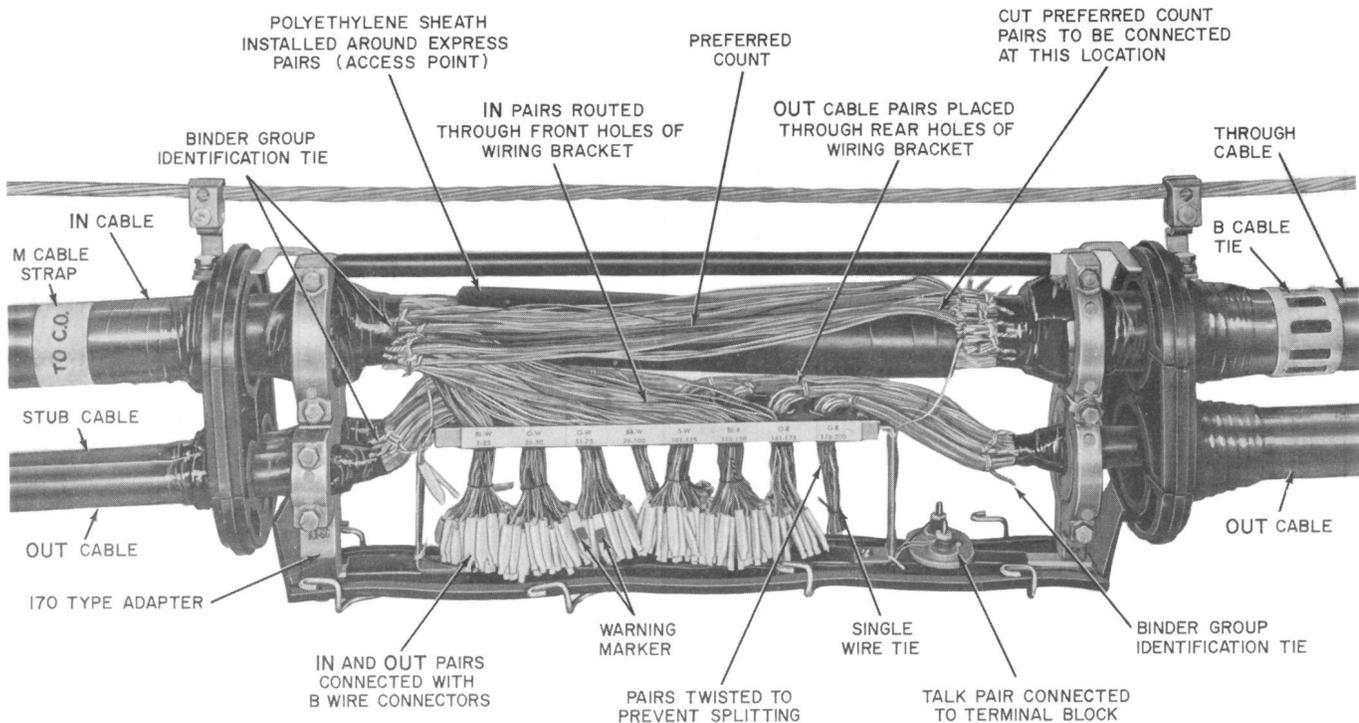

Fig. 2—1B1 Closure
- (a) A green B cable tie placed around the *EXPRESS* cable of a strand-mounted access point (Fig. 2). A red B cable tie identifies a control point (Fig. 4).
- (a) *Strand-Mounted Access Point*—The 1B1 closure (Fig. 2) is used as a strand-mounted access point.